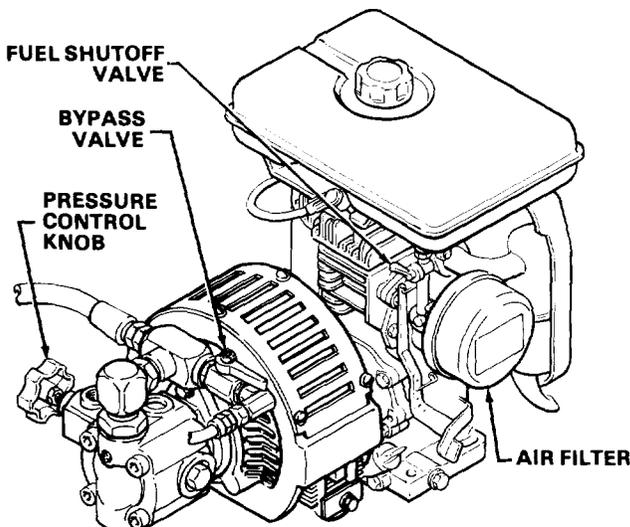

Fig 5
4. Turn the pressure control knob *counterclockwise* until all spring tension is relieved. You will be able to feel it. The sprayer is now set at the lowest pressure setting. Turning the knob further will cause it to fall off. Tighten the knob locknut to set. See Fig 5.
5. Open the bypass valve. The lever will be parallel to the body of the valve. See Fig 5.
6. Open the fuel shutoff valve by screwing it out as far as it will go. See Fig 5.
11. Disengage the gun safety latch and squeeze the gun trigger. At the same time, slowly turn the pressure control knob clockwise just enough to start the pump. See Fig 5.